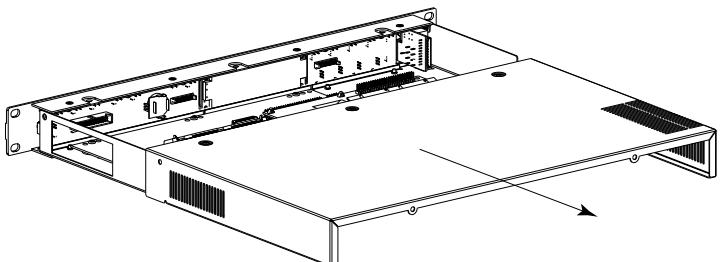

Figure 11 Removing the top panel
4. Grasp the front of the PC2R and slide the top panel straight back until it's free from the body of the PC2R (see Figure 11).